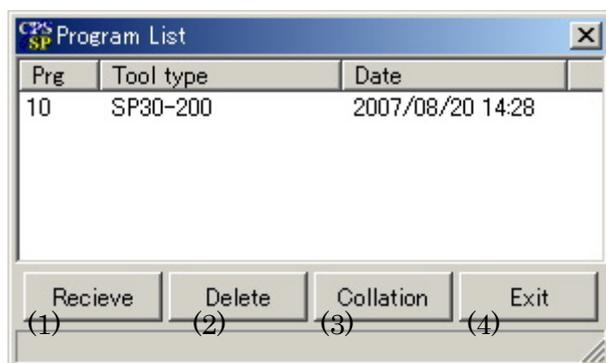

Fig.4-6 Program list
| (19) | Receive etc. | The program list in a controller is displayed.(Fig. 4-6) |